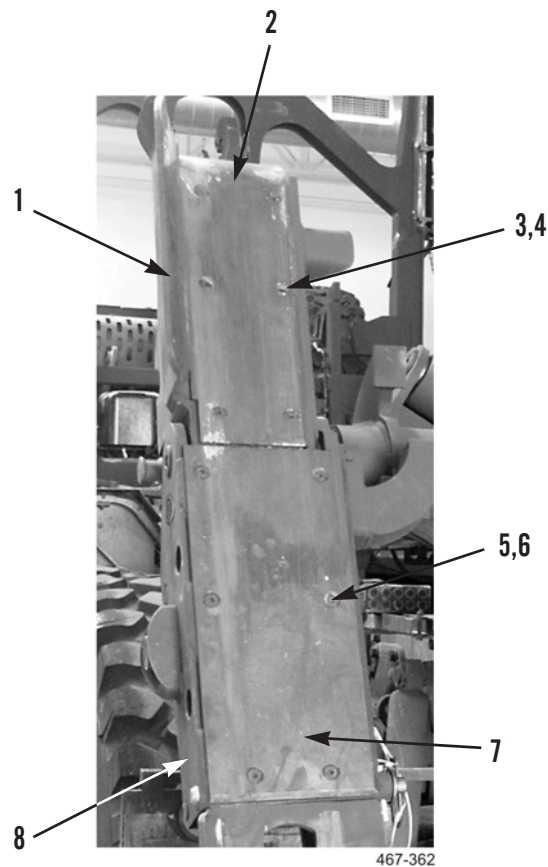

Figure 2. Slider Pad Installation.
1. With assistance, install rear slider pad (Figure 2, Item 7), six bolts (Figure 2, Item 5), and new locknuts (Figure 2, Item 6) on rear slider bed (Figure 2, Item 8).
2. Apply grease to rear slider pad (Figure 2, Item 7) surface.
1. With assistance, install front slider pad (Figure 2, Item 2) on front slider bed (Figure 2, Item 1).
2. Install eight bolts (Figure 2, Item 3) and new locknuts (Figure 2, Item 4) on front slider pad (Figure 2, Item 1).
3. Apply grease to front slider pad (Figure 2, Item 2) surface.